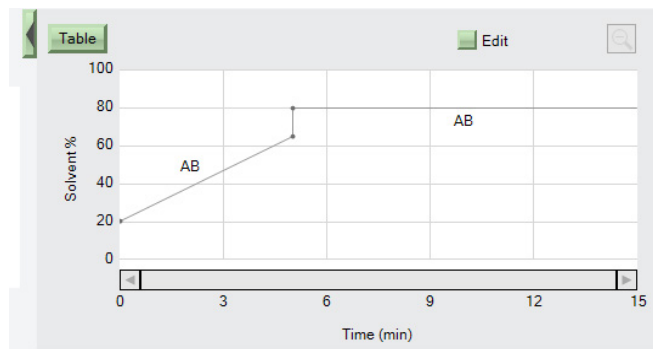

Figure 3-8: Typical Gradient
5. When you have completed the gradient table, press *Close*. The gradient will be presented in the plot (e.g. Figure 3-8).